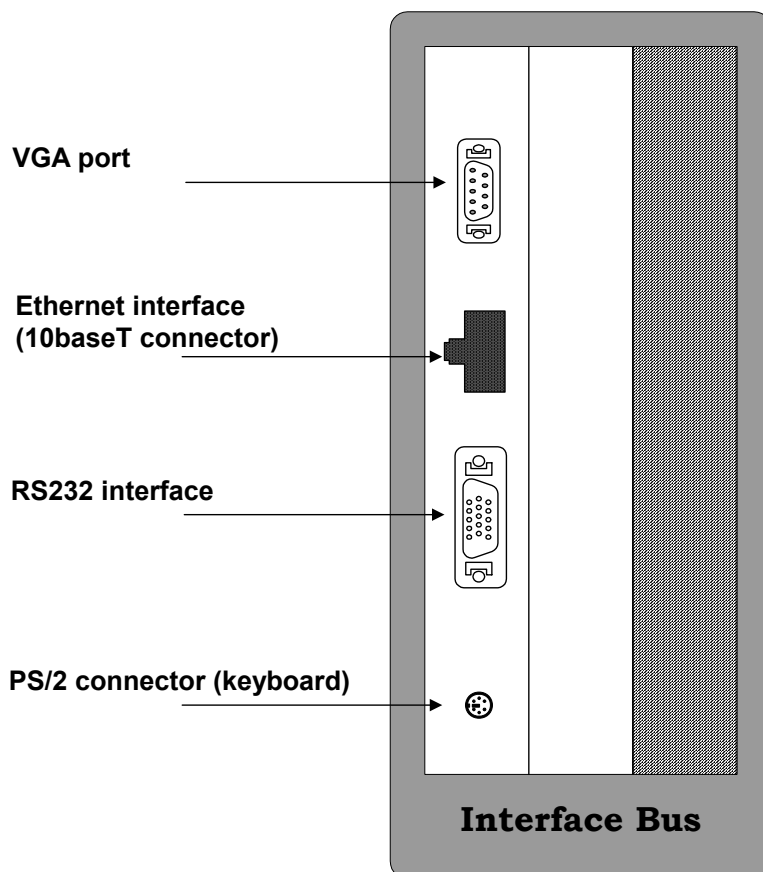

Fig. 7.3 – Location of RS232 interface, VGA port, PS/2 connector and Ethernet interface
3. Plug the keyboard into the PS/2 connector (see also Fig. 7.3, p.57);
2. Identify the VGA port (see also Fig. 7.3, p.57) located in the Interface Bus section on the front panel (on the right of the keypad and compact switch);
4. Identify the RS232 interface located in the Interface Bus section on the front panel (see also to Fig. 7.3, p.57);